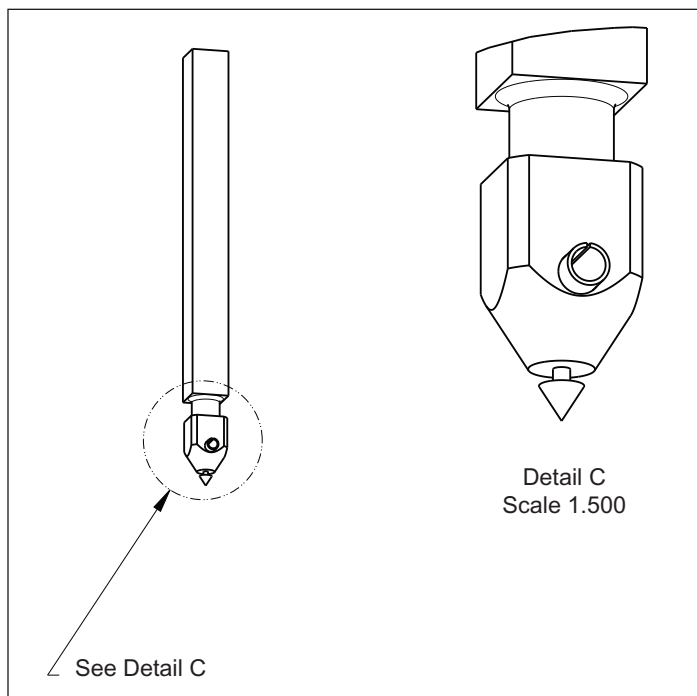

Figure 6. Shaft and Handle.
7. After the door has been drilled and the shaft and handle interaction have been verified, it is suggested to remove the point from the end of the shaft (see Figure 6).